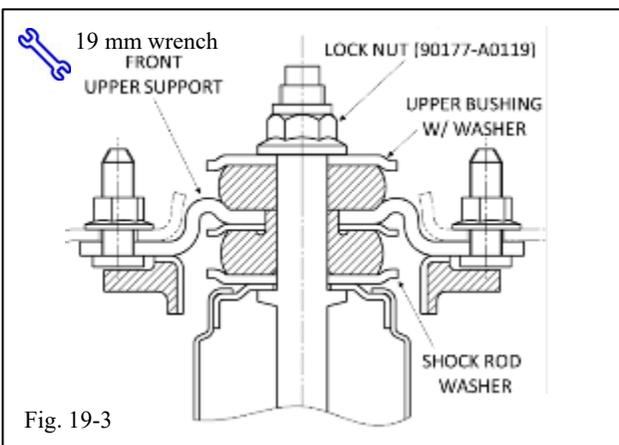

Fig. 19-3
- rotate lower spring seat and isolator such that the end of the bottom of the coil faces the rear of the vehicle (opposite the TRD logo, which faces forward) (Fig. 19-3).